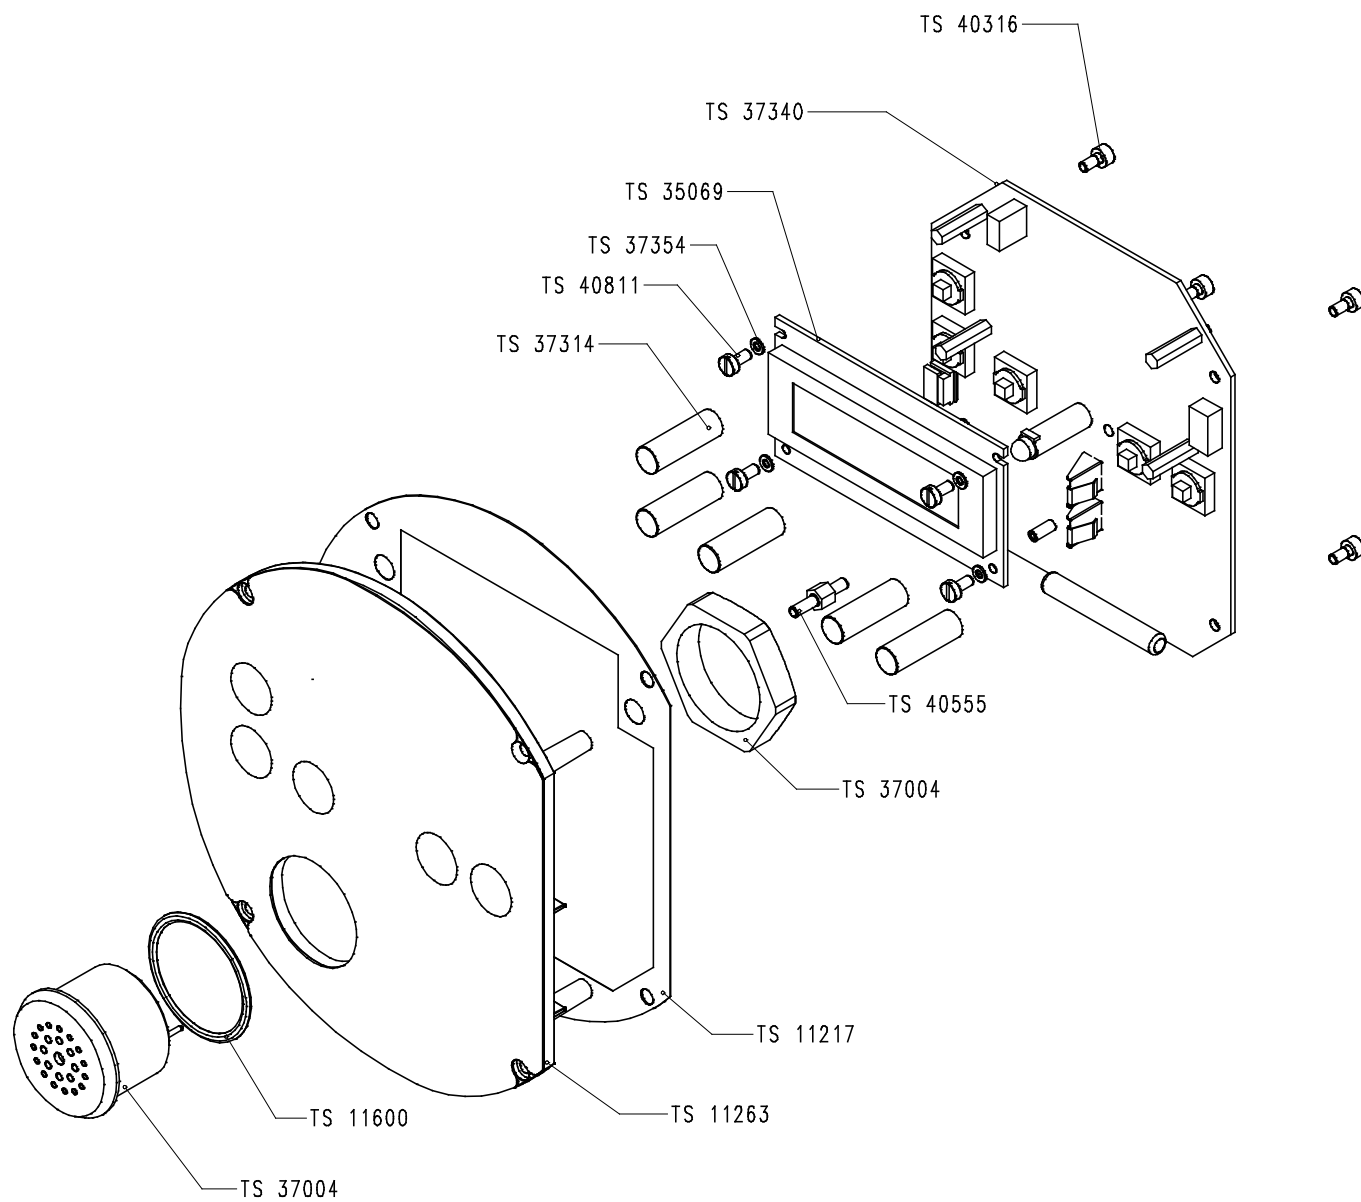

Figure 12-2: display unit assembly TS 10210, details
- Figure 12-2: display unit assembly TS 10210, details